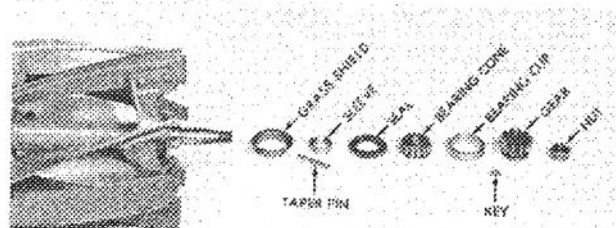
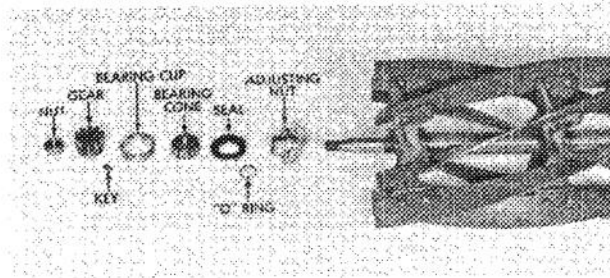

Figure 39
Figure 40
22. If the reel assembly is being removed, remove the remaining components from right end (Fig. 39) and left end (Fig. 40) of the reel shaft. Inspect for damage and replace if necessary. Reassemble in reverse order of disassembly.